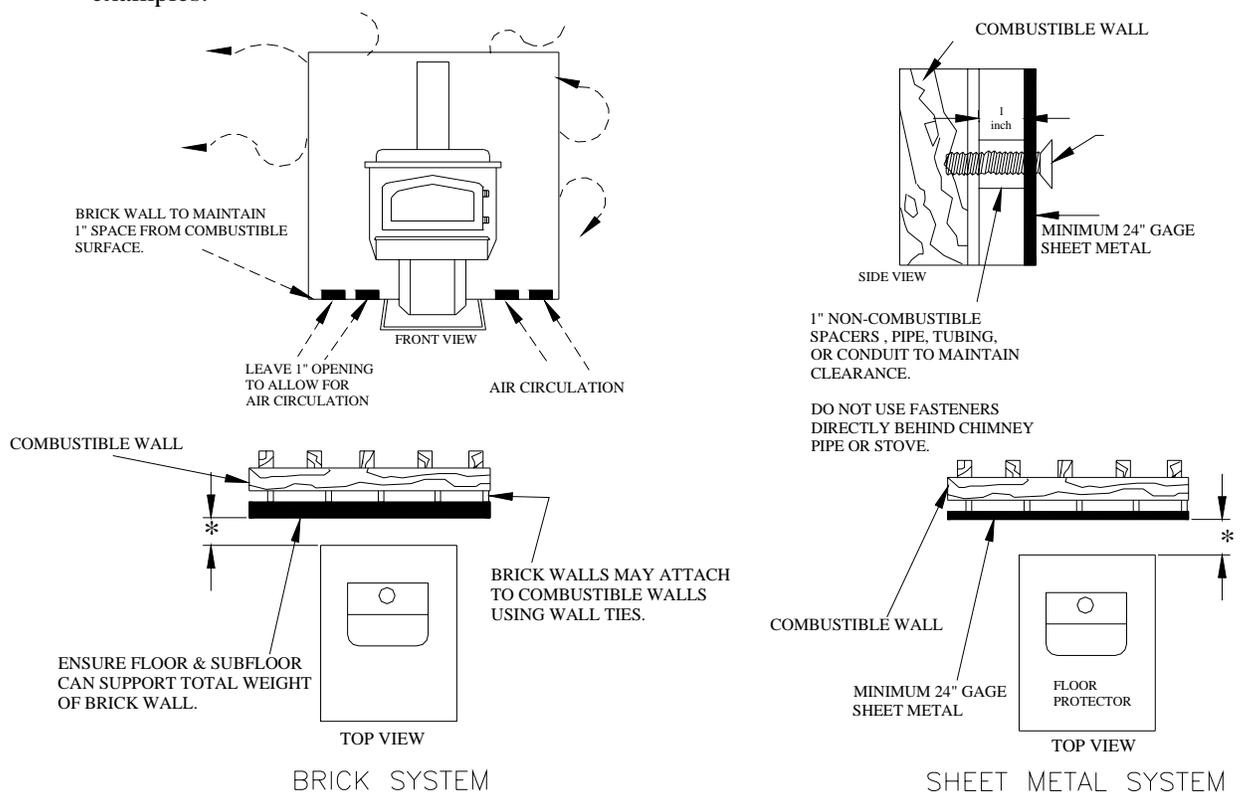

FIGURE 2: *12 RULE CLEARANCE SYSTEMS
2. Essentially, the **12 RULE** states that no clearance can ever be less than twelve inches (12" or 300mm) from a catalytic stove to any **COMBUSTIBLE WALL** regardless of the additional type of protection provided for a specific combustible wall. Refer to **FIGURE 2** for **12 RULE** examples.